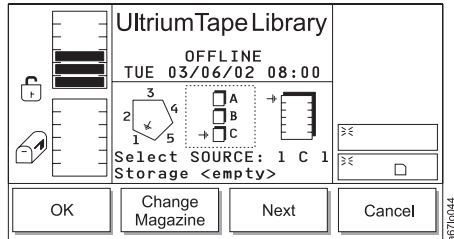

Figure 4-65. Change Magazine Dialog
- a. Press the button below the **Change Column** softkey until the arrow in the left icon points to the column that you want. Press the button below the **Next** softkey. The Change Magazine Dialog displays (see Figure 4-65 on page 4-39).